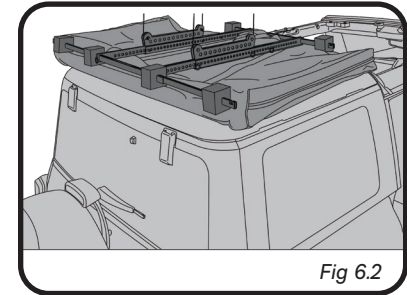

Fig 6.2
3. Slowly lower the hardtop frame onto the hardtop. Perfect alignment is not necessary, but try to get close. (Fig 6.2)